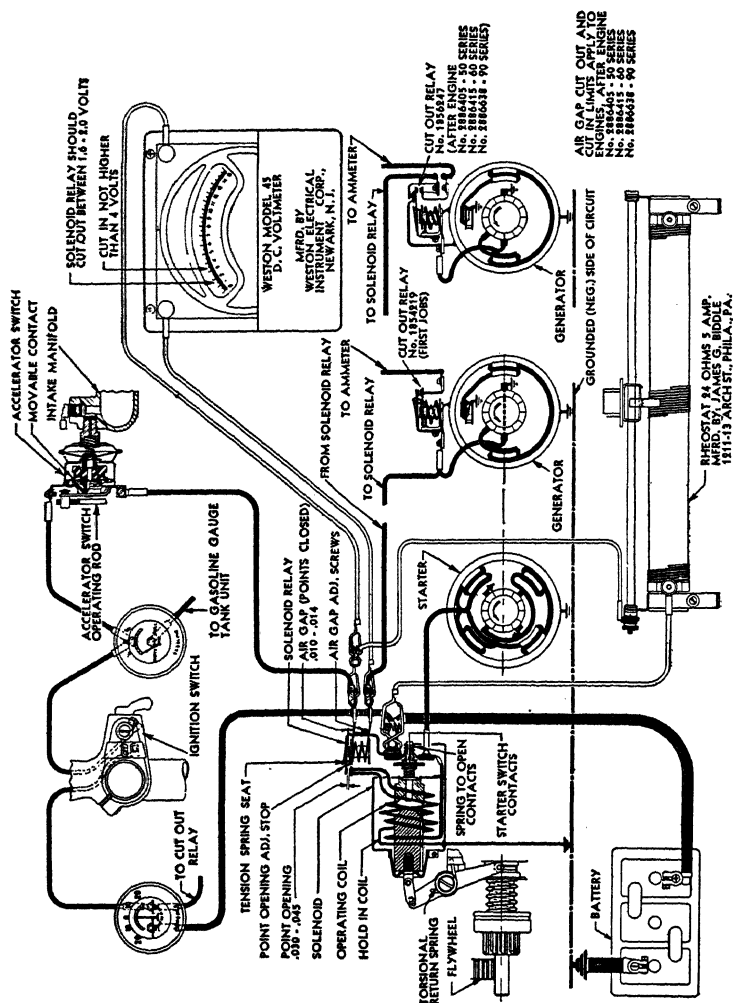

Fig. 18. Diagram for Checking Calibration of Buick Solenoid Relay
**Parking Lamps.** Parking bulbs for the front of the automobile are sometimes included in the headlamp, as illustrated in Fig. 7; or side lamps may be mounted on the fenders or about the cowl of the automobile. The Pontiac Six, 1935, wiring diagram, Fig. 18, shows the wiring connections to the side lamps.
method of wiring is illustrated in connection with the dome lamp and switch shown in the upper right-hand corner of the wiring diagram, Fig. 18.
Testing Electric Circuits of the Car. Fig. 17 illustrates the Buick wiring diagram. Figs. 18, 19, and 20 illustrate the use of
instruments in checking up on the different circuits of the car wiring. Fig. 18 shows the diagram for checking the calibration of the Buick solenoid relay. In the upper right-hand corner of the diagram a low-reading voltmeter with a scale of 0 to 10 volts, with graduations of